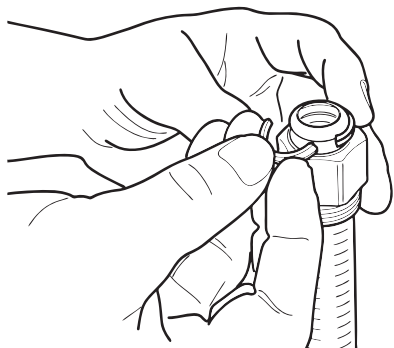

Figure: 4-34
4. Slip nut over end of pipe and insert split rings into the valley of the first corrugation (Figure 4-34).